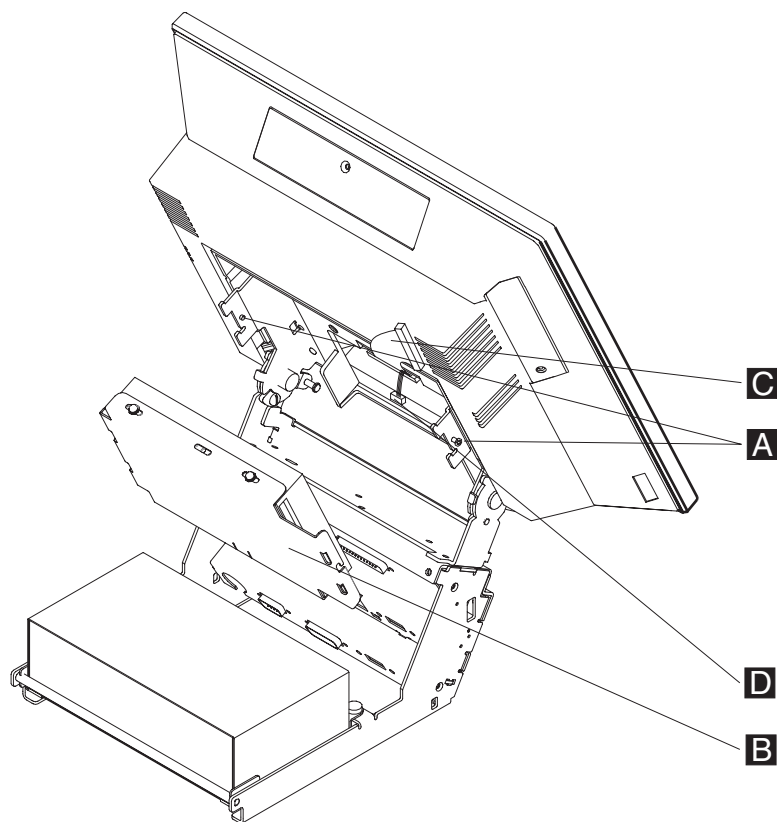

Figure 53. Exploded view of the integrated character display
3. Unplug the cable **D** from the SurePOS 500/600 by releasing the locking tab, as shown in Figure 53.